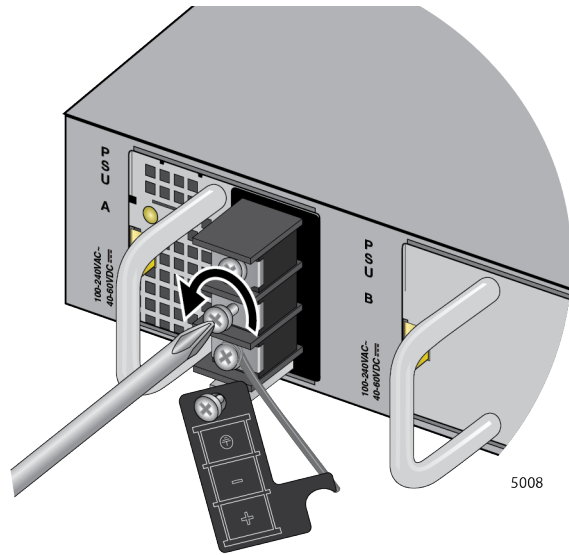

Figure 67. Loosening the Screw for the Negative (-)
3. Loosen the middle screw for the negative (-) with a Phillips-head screwdriver. Refer to Figure 67.